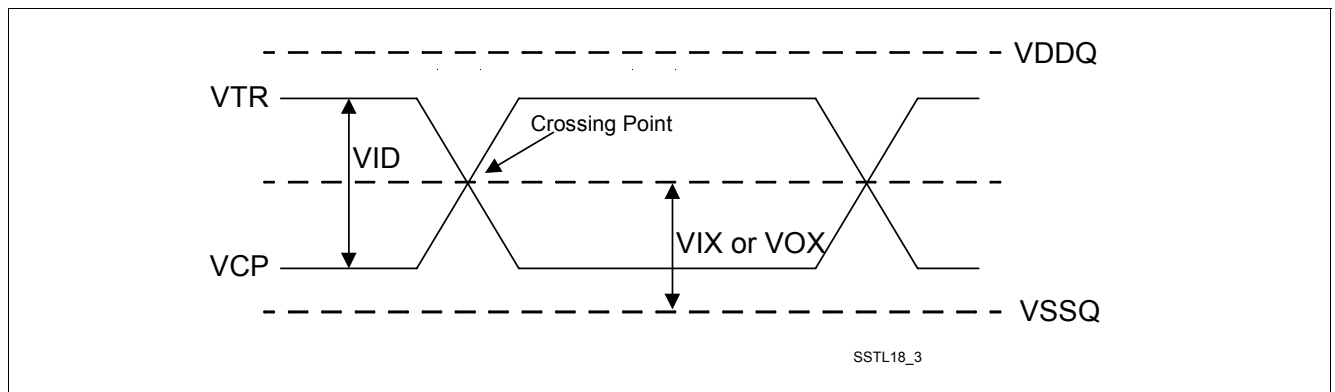

**Figure 63 Single-ended AC Input Test Conditions Diagram**
- 3) The input signal minimum slew rate is to be maintained over the range from  $V_{\text{IL}(\text{dc})\text{max}}$  to  $V_{\text{IH}(\text{ac})\text{min}}$  for rising edges and the range from  $V_{\text{IH}(\text{dc})\text{min}}$  to  $V_{\text{IL}(\text{ac})\text{max}}$  for falling edges as shown in Figure 63